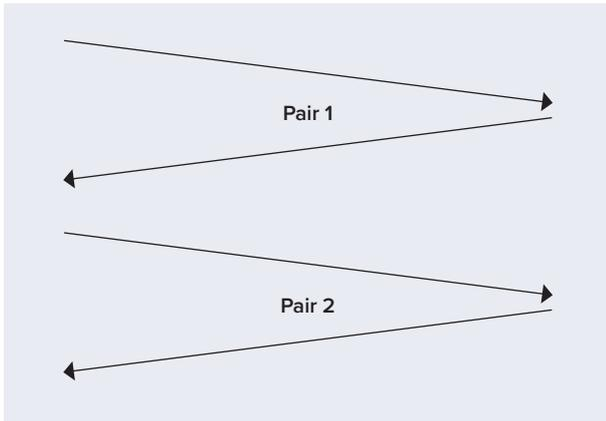
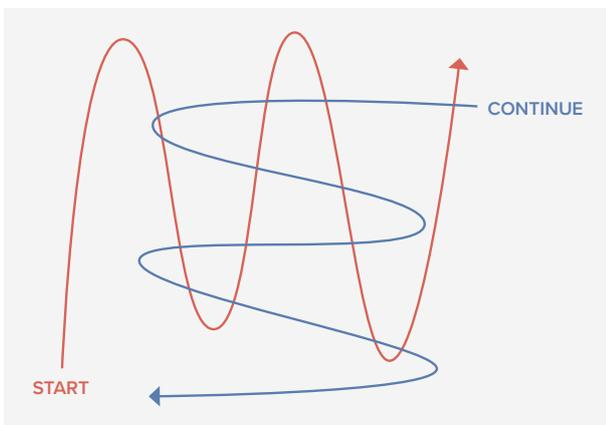

Figure A11 – Sampling procedure for deep litter shed with partition
Figure A12 – Sampling procedure for deep litter sheds without pens or partitions
- Walk the entire length of the shed and return to the collection point as per Figure A11 (shed with partition) and Figure A12 (shed without pens or partition).